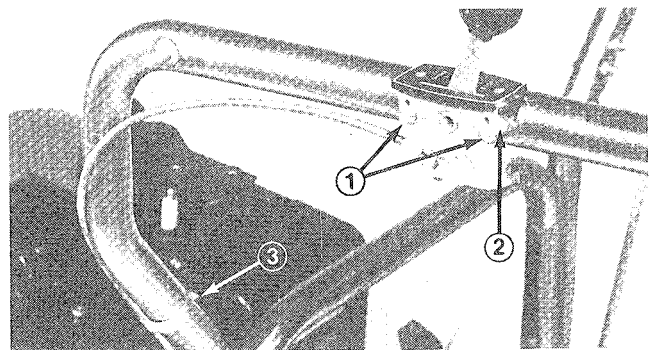

Figure 5
6. Secure the cable to the handle with the clip (Fig. 5).